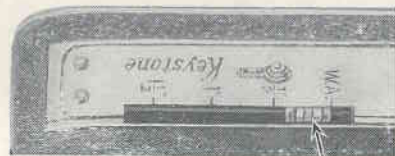

Fig. 8
*Example:* Determine the distance in feet from the camera to the subject. Assume 8 feet. Turn the Distance Scale Ring on the lens barrel until the Figure 8 is opposite the Distance Scale Marker. At this position all objects 8 feet from the camera are in sharp focus, although the latitude of focus is a few feet on either side of this distance.